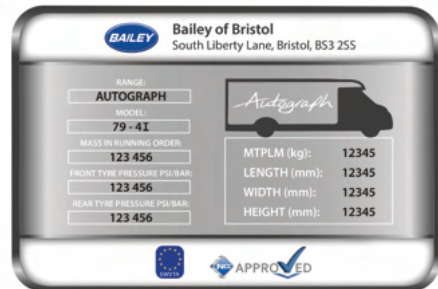

Figure 2
- The Bailey weight plate (fig. 2)